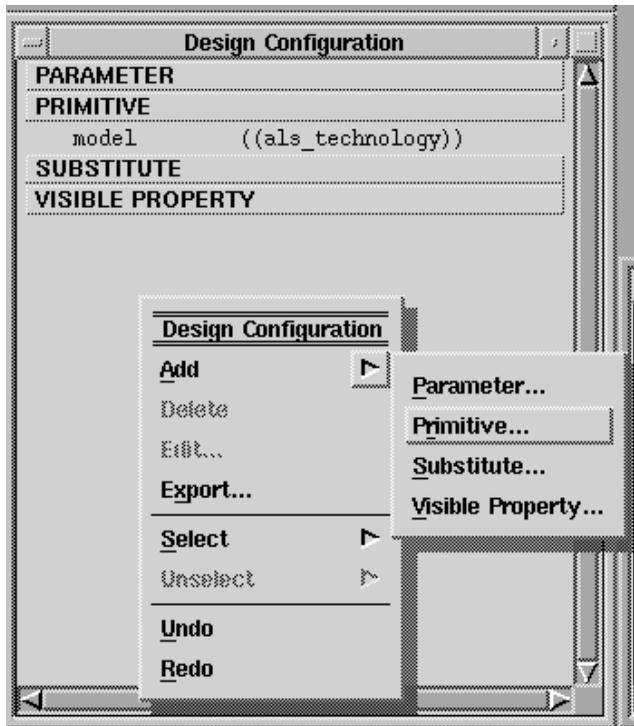

Figure 4-3. Design Configuration Window
5. **Make the Design Configuration window active by clicking on its title bar, as shown in Figure 4-3.**